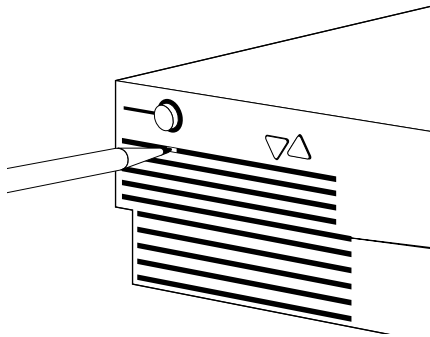

Figure 8-1 Pressing the Reset Button
1. If you cannot communicate with the system using the console, or over the network, or if the power button on the front of the system doesn't respond, use a pencil or an unwound paper clip to press the recessed reset button located on the front panel, as shown in Figure 8-1.